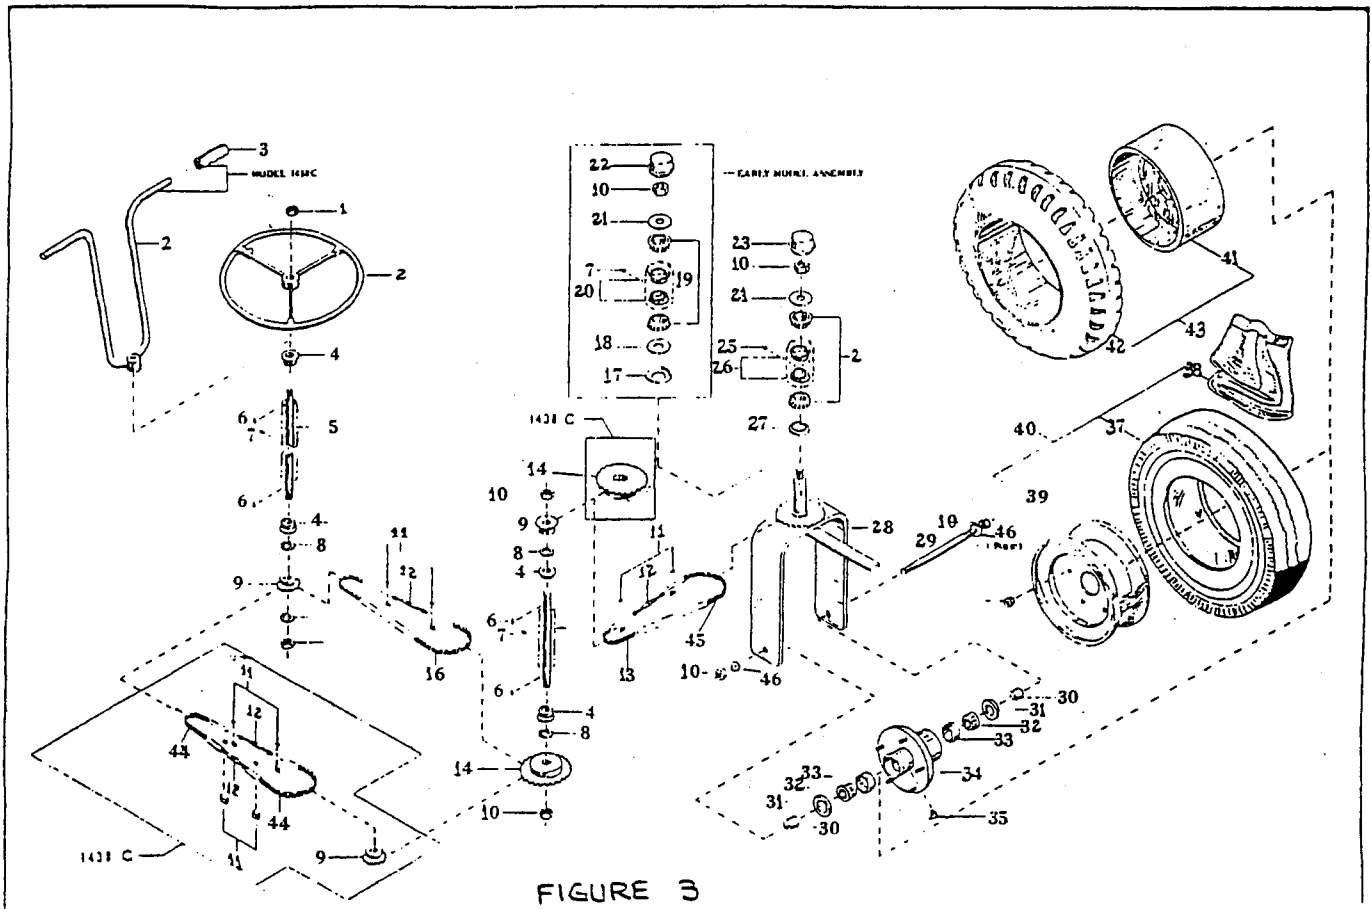

FIGURE 3
REFER TO FIGURE 3
2. Generously pack bearings with wheel bearing grease. Assemble one dust seal and bearing in lower part of housing. Refer to figure 3 for proper location. Slide fork spindle through housing and insert upper bearing and washer.